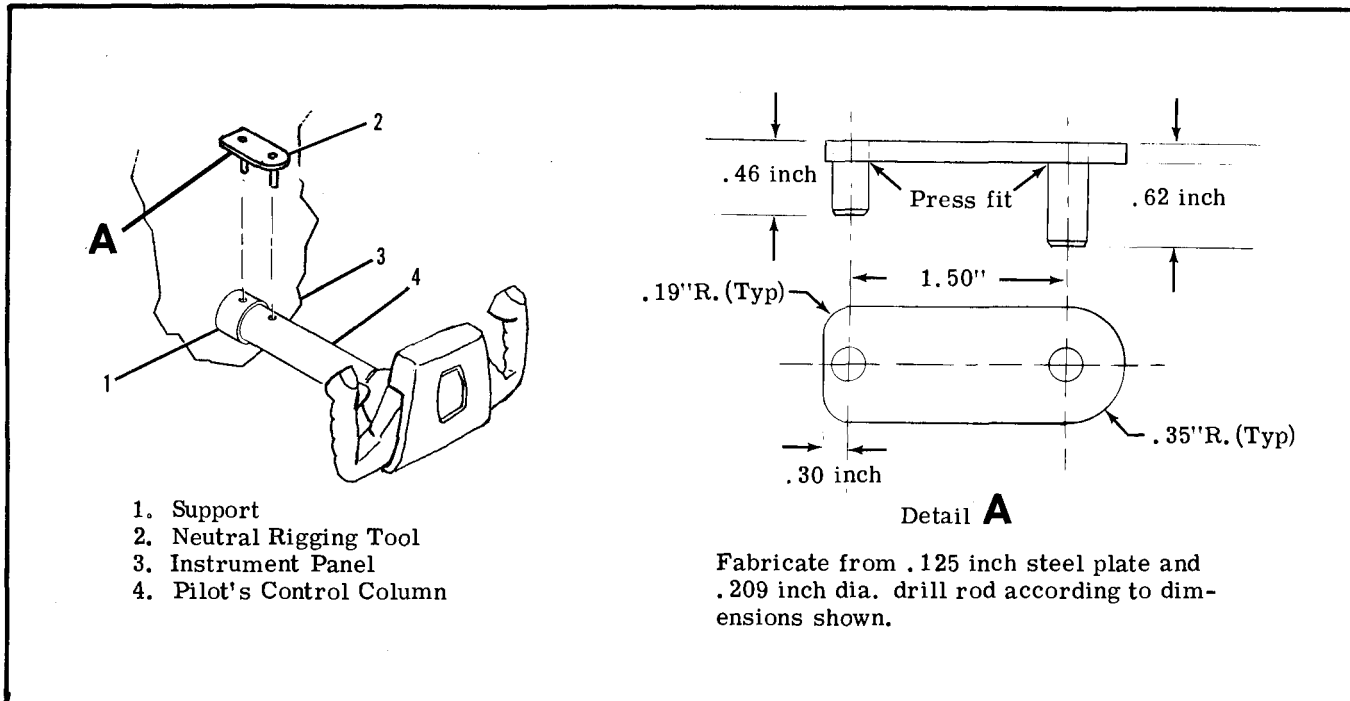

Figure 8-3. Control Column Neutral Rigging Tool
- a. Lock control column in neutral position by installing neutral rigging tool (index 2, figure 8-3).